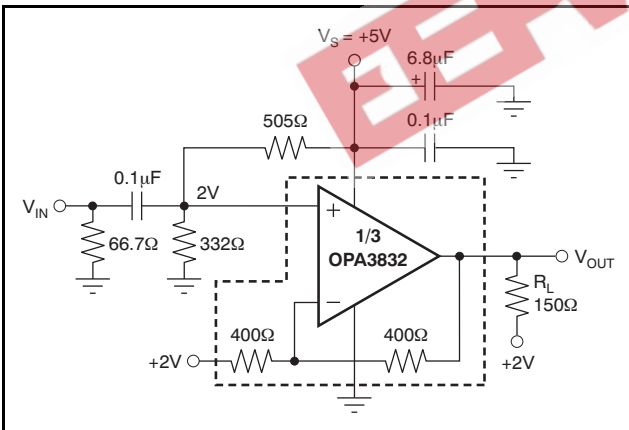
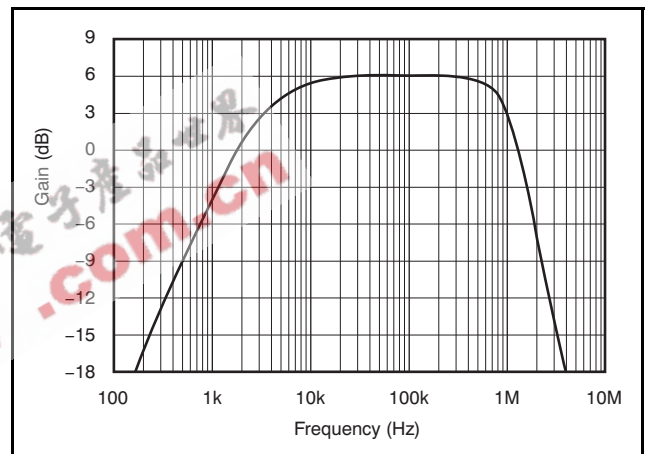

Figure 46. AC-Coupled, G = +2, +5V Single-Supply Specification and Test Circuit
Figure 49. 1MHz, 2nd-Order, Butterworth Low-Pass Filter
Figure 46 shows the ac-coupled, gain of +2V/V configuration used for the +5V Specifications and Typical Characteristic Curves. For test purposes, the input impedance is set to 50Ω with the 66.7Ω resistor to ground in parallel with the 200Ω bias network. Voltage swings reported in the Electrical Characteristics are taken directly at the input and output pins. For the circuit of Figure 46, the total effective load on the output at high frequencies is 150Ω || 800Ω. The 332Ω and 505Ω resistors at the noninverting input provide the common-mode bias voltage. This parallel combination equals the dc resistance at the inverting input (RF), reducing the dc output offset resulting from input bias current.
pole set to 3.2kHz for the component values shown). As discussed for Figure 46, this configuration allows the midpoint bias formed by one 2kΩ and one 3kΩ resistor to appear at both the input and output pins. The midband signal gain is set to +2 (6dB) in this case. The capacitor to ground on the noninverting input is intentionally set larger to dominate input parasitic terms. At a gain of +2, the OPA3832 on a single supply will show 80MHz small- and large-signal bandwidth. The resistor values have been slightly adjusted to account for this limited bandwidth in the amplifier stage. Tests of this circuit, shown in Figure 49, illustrate a precise 1MHz, -3dB point with a maximally-flat passband (above the 3.2kHz ac-coupling corner), and a maximum stop band attenuation of 36dB.
Evaluating these two equations for the circuit and component values shown in Figure 46 gives a total output spot noise voltage of 18.8nV/√Hz and a total equivalent input spot noise voltage of 9.42nV/√Hz. This total includes the noise added by the resistors. This total input-referred spot noise voltage is not much higher than the 9.2nV/√Hz specification for the op amp voltage noise alone.